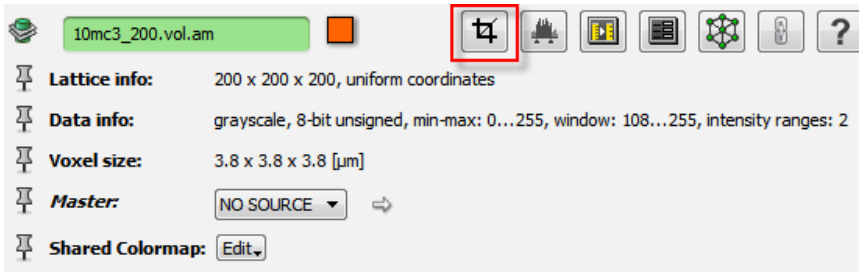

Figure 14.7: Finding the *Crop Editor* button when the data set is selected in the Project View.
- Open the *Crop Editor* by clicking on the highlighted button in Figure 14.7.